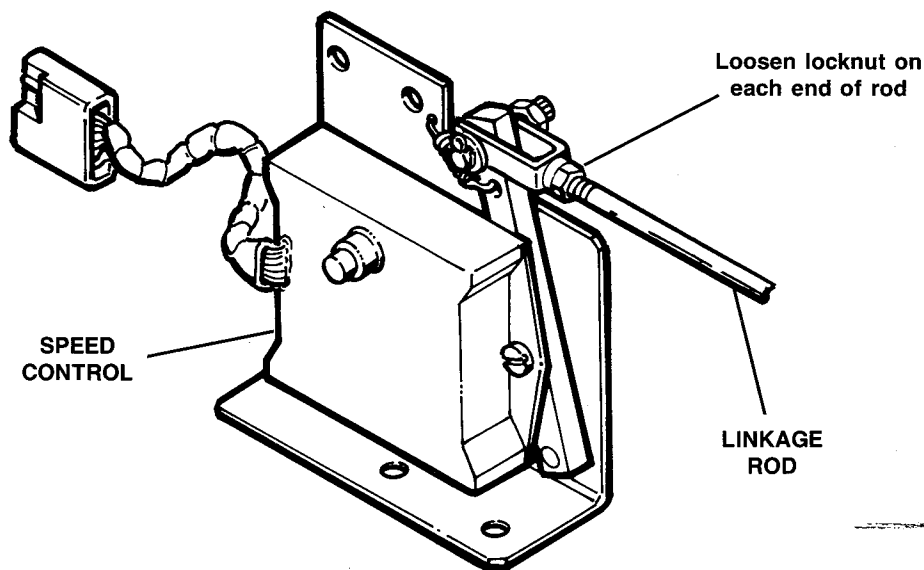

Figure 105 – Speed Control Adjustment
- Loosen the locknut on each end of the linkage rod, Figure 105.